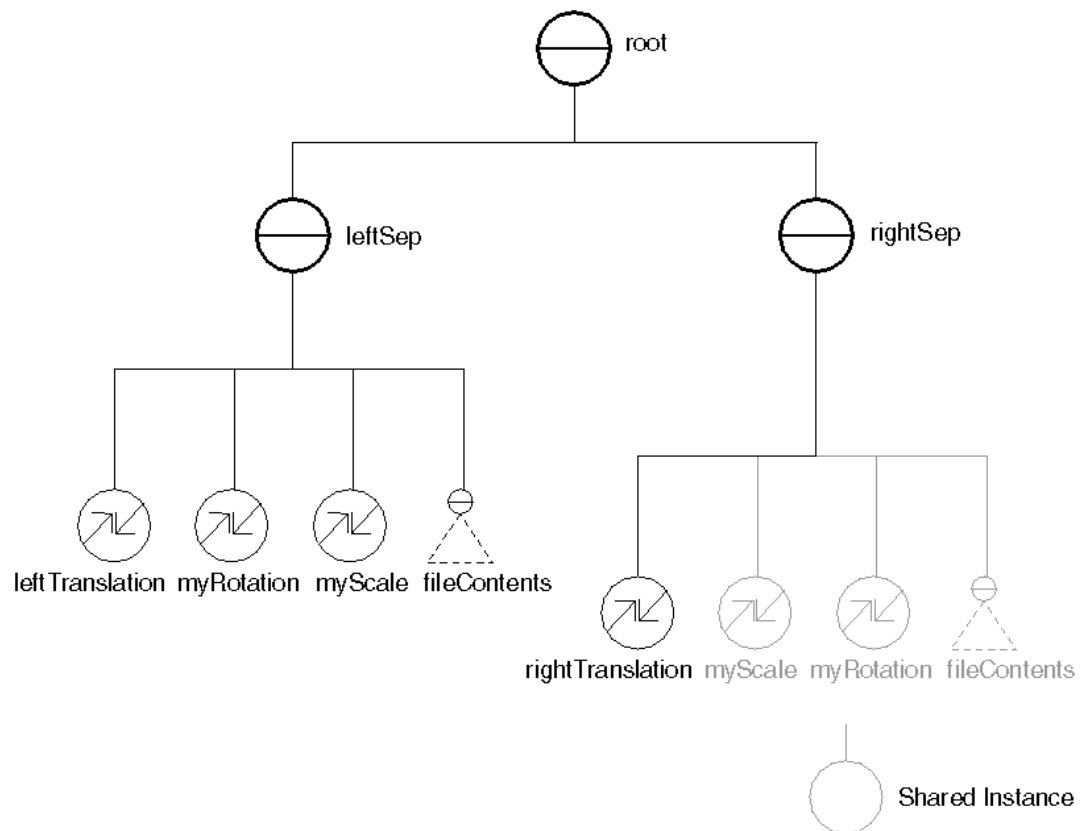

Figure 5.10 Two Groups with Transformations in Different Order
- 2 for `PER_FACE_INDEXED` (see Figure 5-10)
Figure 5.10 and "Effects of Ordering Transformation Fields" show how different ordering of transformations produces different results. At the left of "Effects of Ordering Transformation Fields" the temple is scaled, rotated, and then translated. The transform node *closest* to the shape object affects the object *first*. You thus need to read backward through the code to see how the effects of the transformations are felt. At the right of "Effects of Ordering Transformation Fields" the temple is rotated, then scaled and translated. Example 5.6 shows the code for the two sets of transformations.